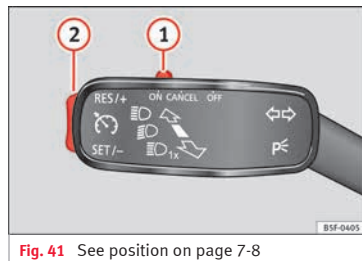

Fig. 41 See position on page 7-8
- Switching on the CCS: Move switch » **Fig. 41 (1)** to **ON**. The system is on. If no
- Activating the CCS: Press button » **Fig. 41 (2)** in the **SET/-** area. The current speed is memorised and controlled.
- Temporarily switching off the CCS: Move switch » **Fig. 41 (1)** to **CANCEL** or push the brake. The cruise control system is switched off temporarily.
- Reactivating the CCS: Press button » **Fig. 41 (2)** in **RES/+**. The memorised speed is saved and controlled again.
- Switching off the CCS: Move switch » **Fig. 41 (1)** to **OFF**. The system is disconnected and the memorised speed is deleted.